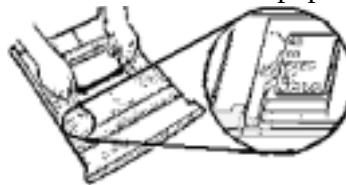

Figure 22. Moving the Side Width Guides
2. Move the side width guides outward to match the paper size as shown in Figure 22.